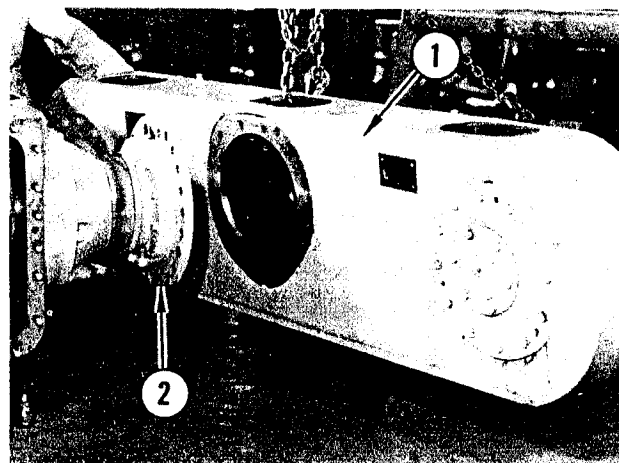

FIGURE 107. TANDEM HOUSING REMOVAL
Attach sling and hoist to tandem housing (1). Remove twenty-two capscrews and lockwashers retaining tandem housing to inner axle carrier (2). Remove tandem housing, Figure 107. Remove brake assemblies from eccentric housing hubs. See Section C for brake removal and repair.